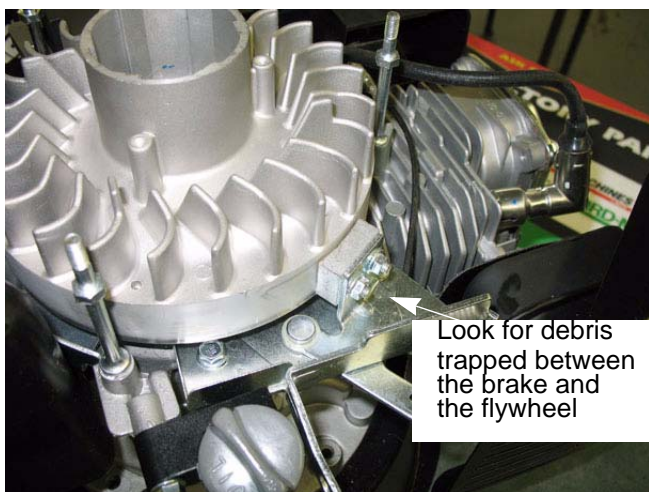

Figure 3.11
- 2b. Check for any material that could be trapped in the blade brake that could be binding the flywheel. See Figure 3.11.